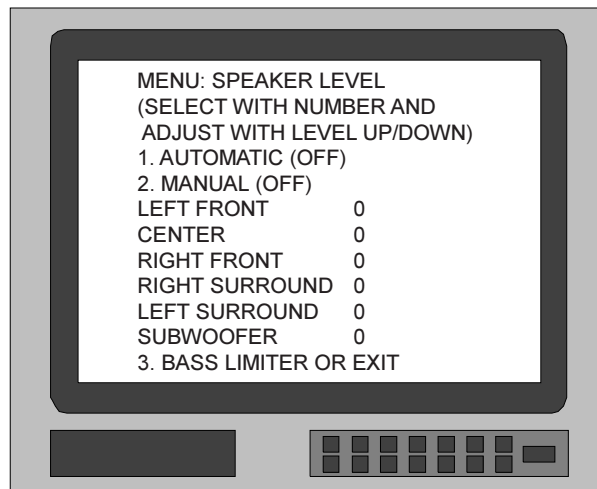

Figure 11
2. Press number 3 on the Remote Control to access the SPEAKER LEVEL MENU, which will appear on the Monitor/TV screen. See Figure 11.